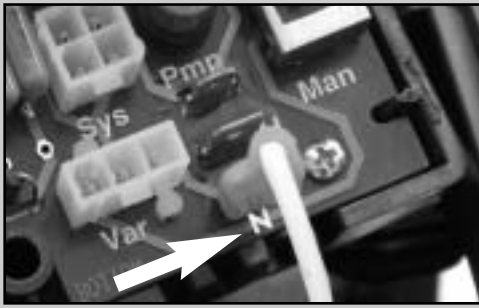

Figure 2-24
2. Using the supplied line cord, connect the white wire with the 1/4" female spade connector to the 1/4" male spade connector labeled "N" on the back of the control panel circuit board. (See Figure 2-24.)